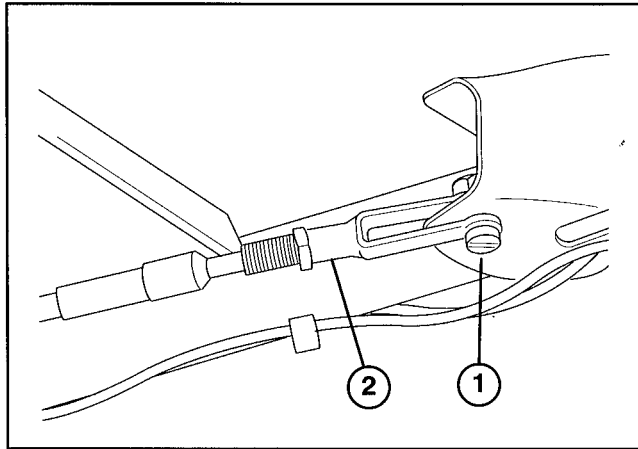

Figure 41
1. Remove screw and nut securing cable clevis to brake lever (Fig. 41).